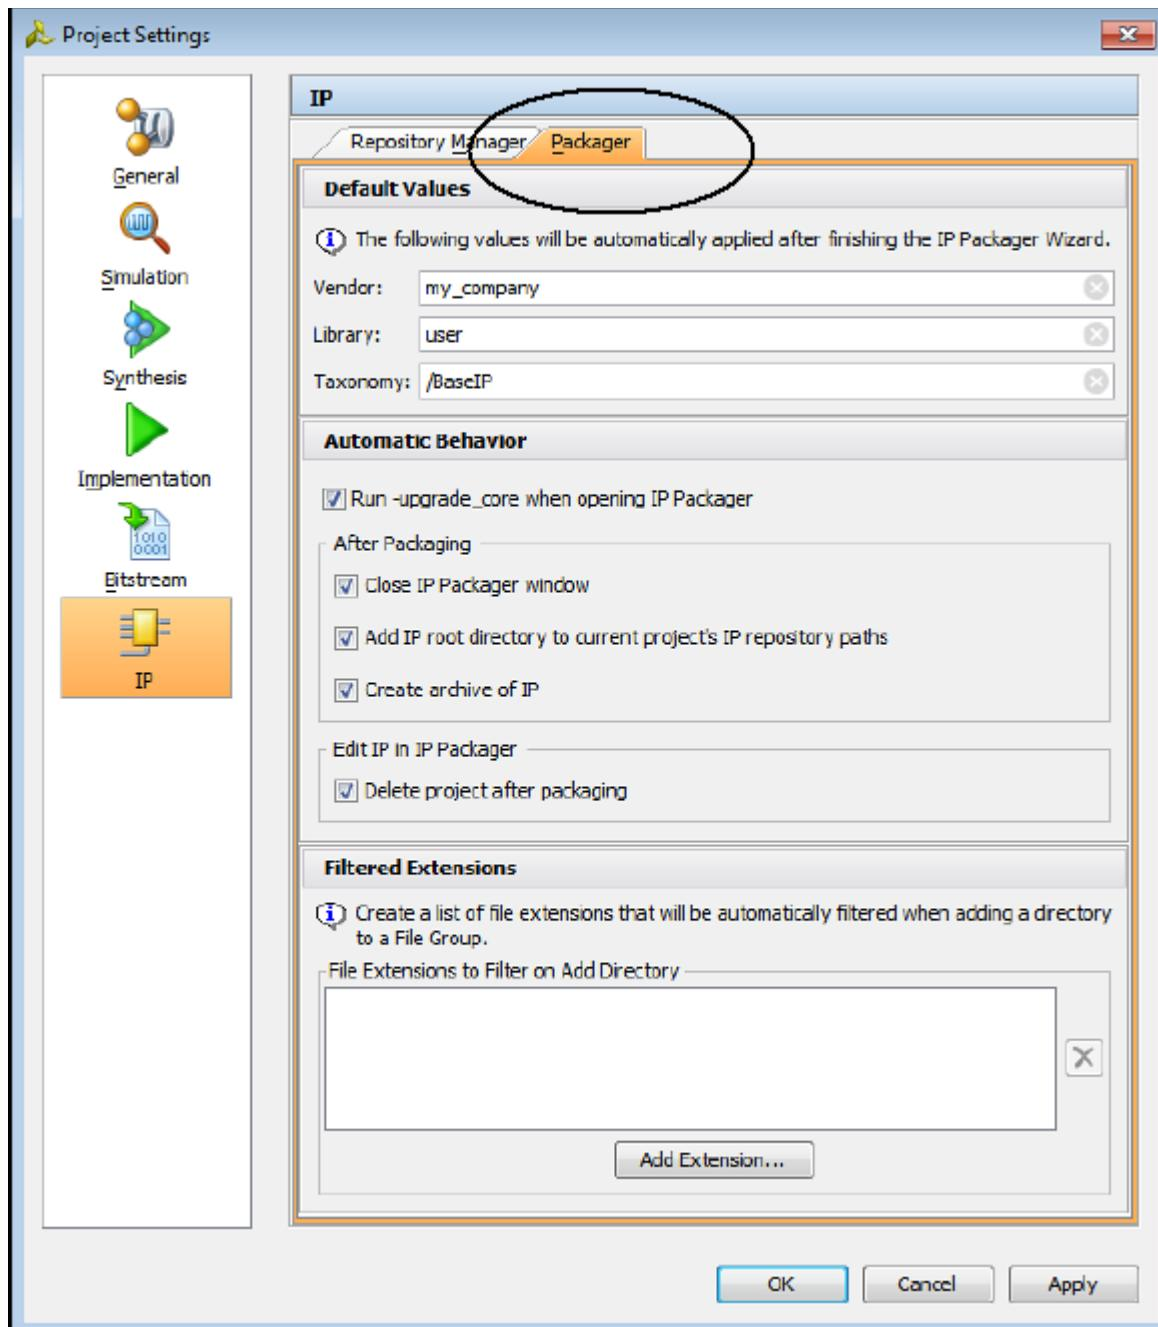

Figure 2-11: IP Project Settings—Packager Tab
1. Click the **Packager** tab (Figure 2-11):